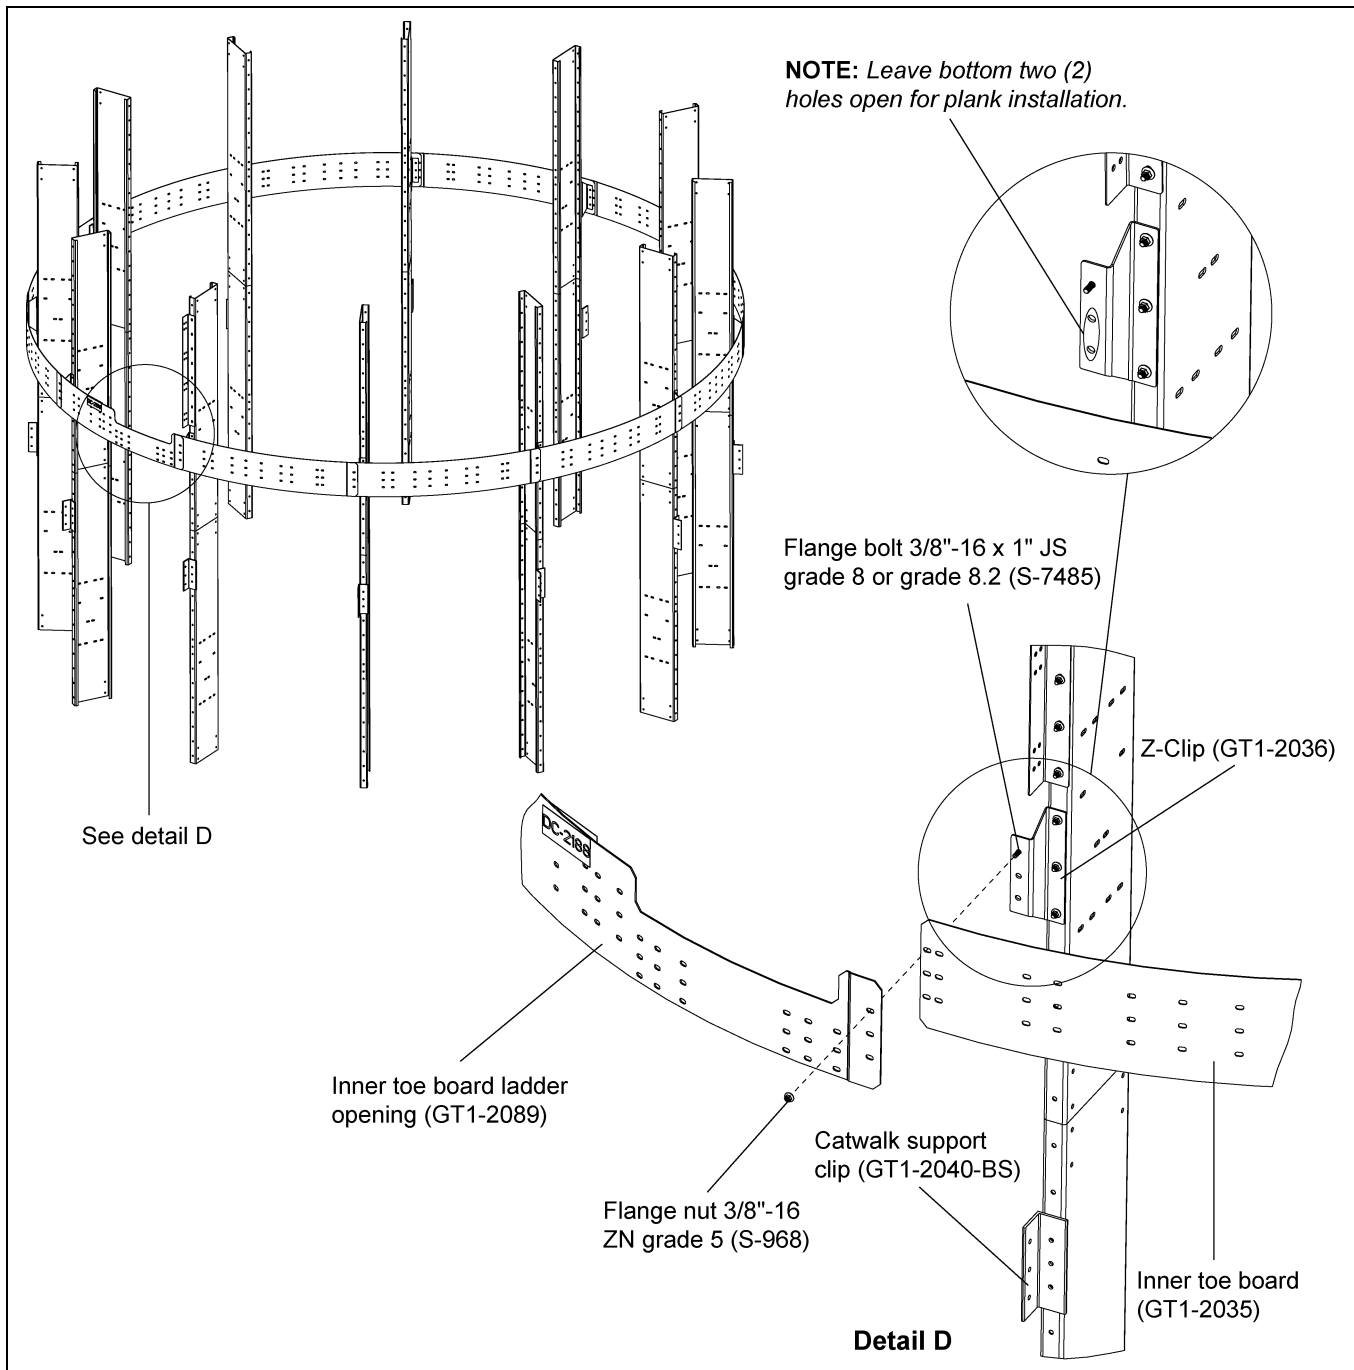
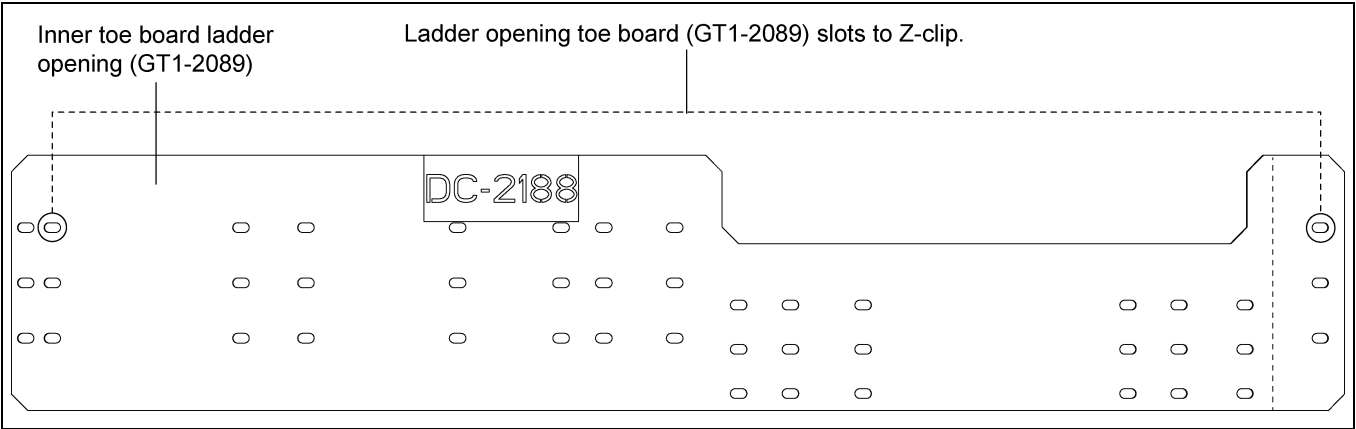

Figure 4G
Figure 4H 18' Ladder Opening Toe Board (GT1-2089)
1. Install the inner toe board (GT1-2035) to the Z-clips (GT1-2036). All toe boards should be installed between the Z-clips using 3/8"-16 x 1" JS grade 8 or grade 8.2 bolts (S-7485) and 3/8"-16 ZN grade 5 nuts (S-968). *(See Figure 4G.)*
2. At the ladder location, install the ladder opening toe board (GT1-2089) to Z-clips using 3/8"-16 x 1" JS grade 8 or grade 8.2 bolts (S-7485) and 3/8"-16 ZN grade 5 nuts (S-968) in such a way that toe board opening falls on the ladder path. *(See Figure 4G below and Figure 4H on Page 18.)*